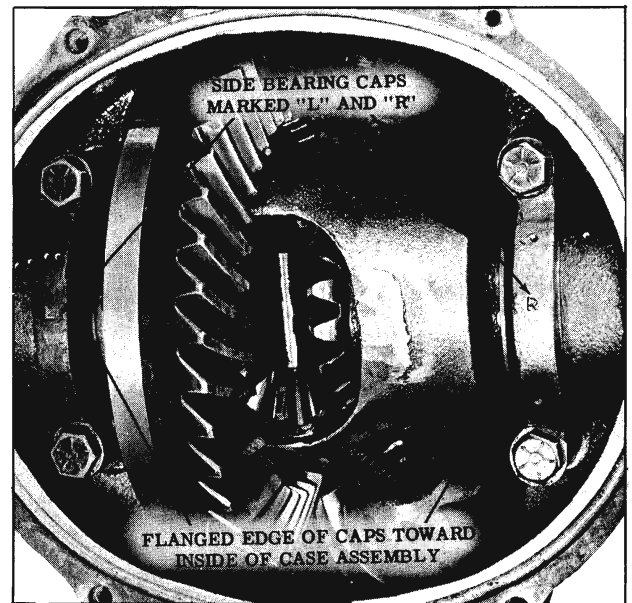

Fig. 6-107 Side Bearing Caps
5. Remove four side bearing cap bolts. (Fig. 6-107) Note: caps are marked "R" and "L" and the beveled side goes to inside of differential assembly.